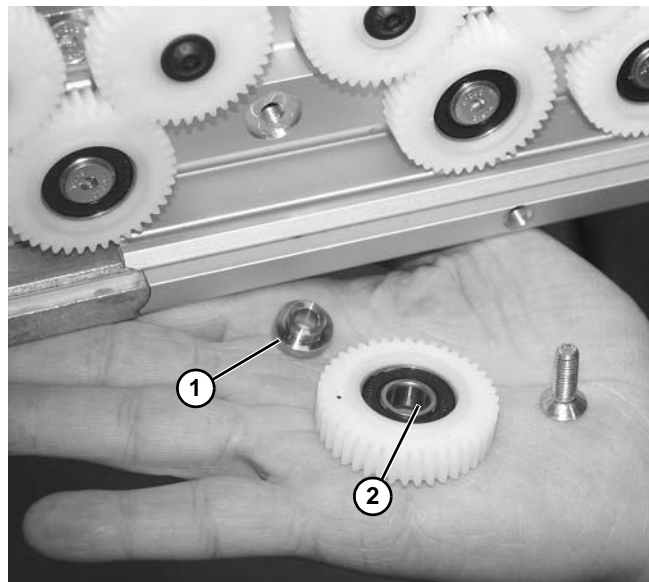

Figure 56
4. Remove spacer (Figure 56, item 1) from end of gear (Figure 56, item 2).